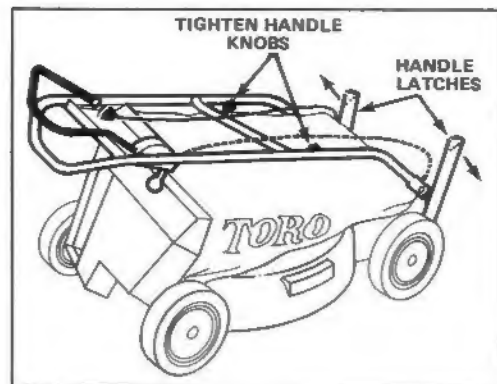

Figure 1
1. Align handles and tighten handle knobs (Fig. 1). Bend handle latches slightly outward (Fig. 1).